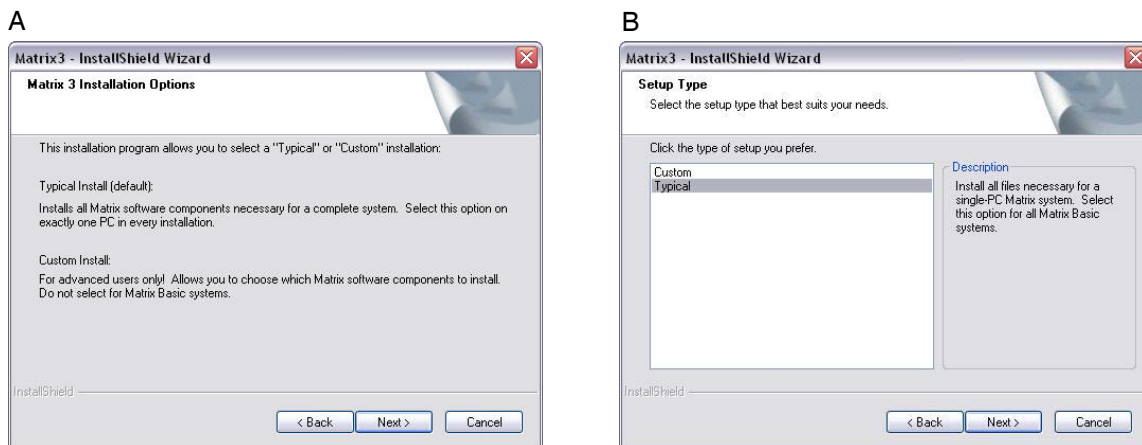

FIG. 5
- After clicking NEXT to accept the License Agreement, the Installation Options screen (A) shown in FIG. 5 displays. This screen describes the two installation options available for selection.
After clicking NEXT the Setup Type screen FIG. 5 (B) displays. This screen is used to select the type of installation you will do.